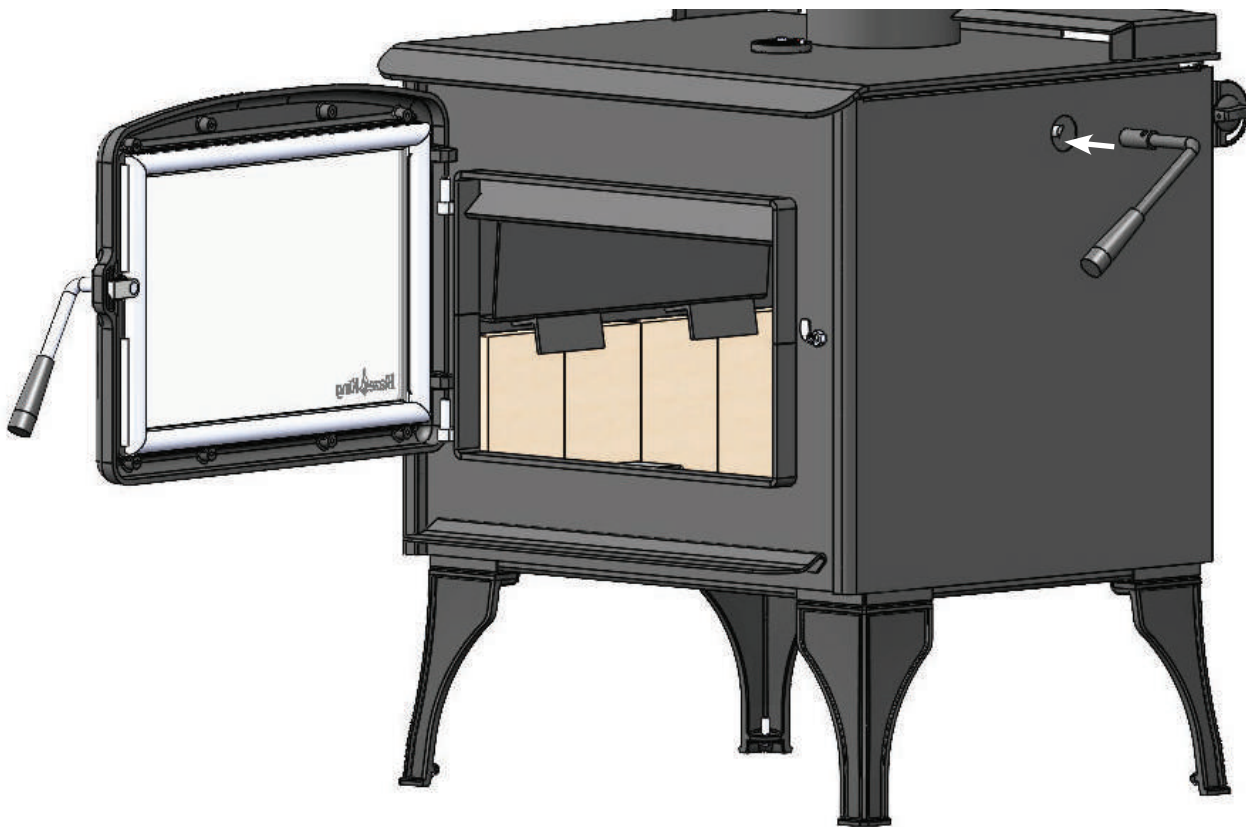

Fig. 5
1. Align bottom door hinge hole with bottom firebox hinge pin. **(Fig. 5)**